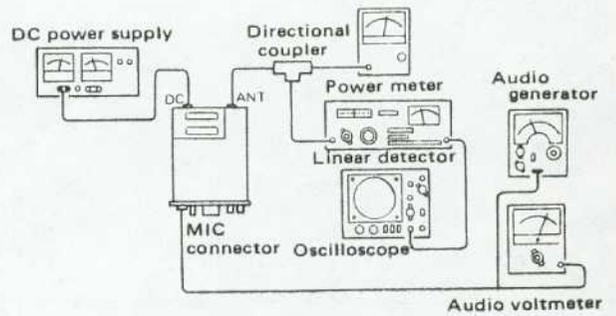

Fig. 22 Modulation Factor Adjustment
- (1) Connect as shown in Fig. 22, and apply a signal of 1 kHz 15 mV from AG to the microphone terminal.
- (2) Set the AUX switch at OFF, and adjust VR4 until the linear detector reads 5 kHz.
- (3) Then adjust the AG output to 1.5 mV, and adjust VR3 until the linear detector reads 3.5 kHz.